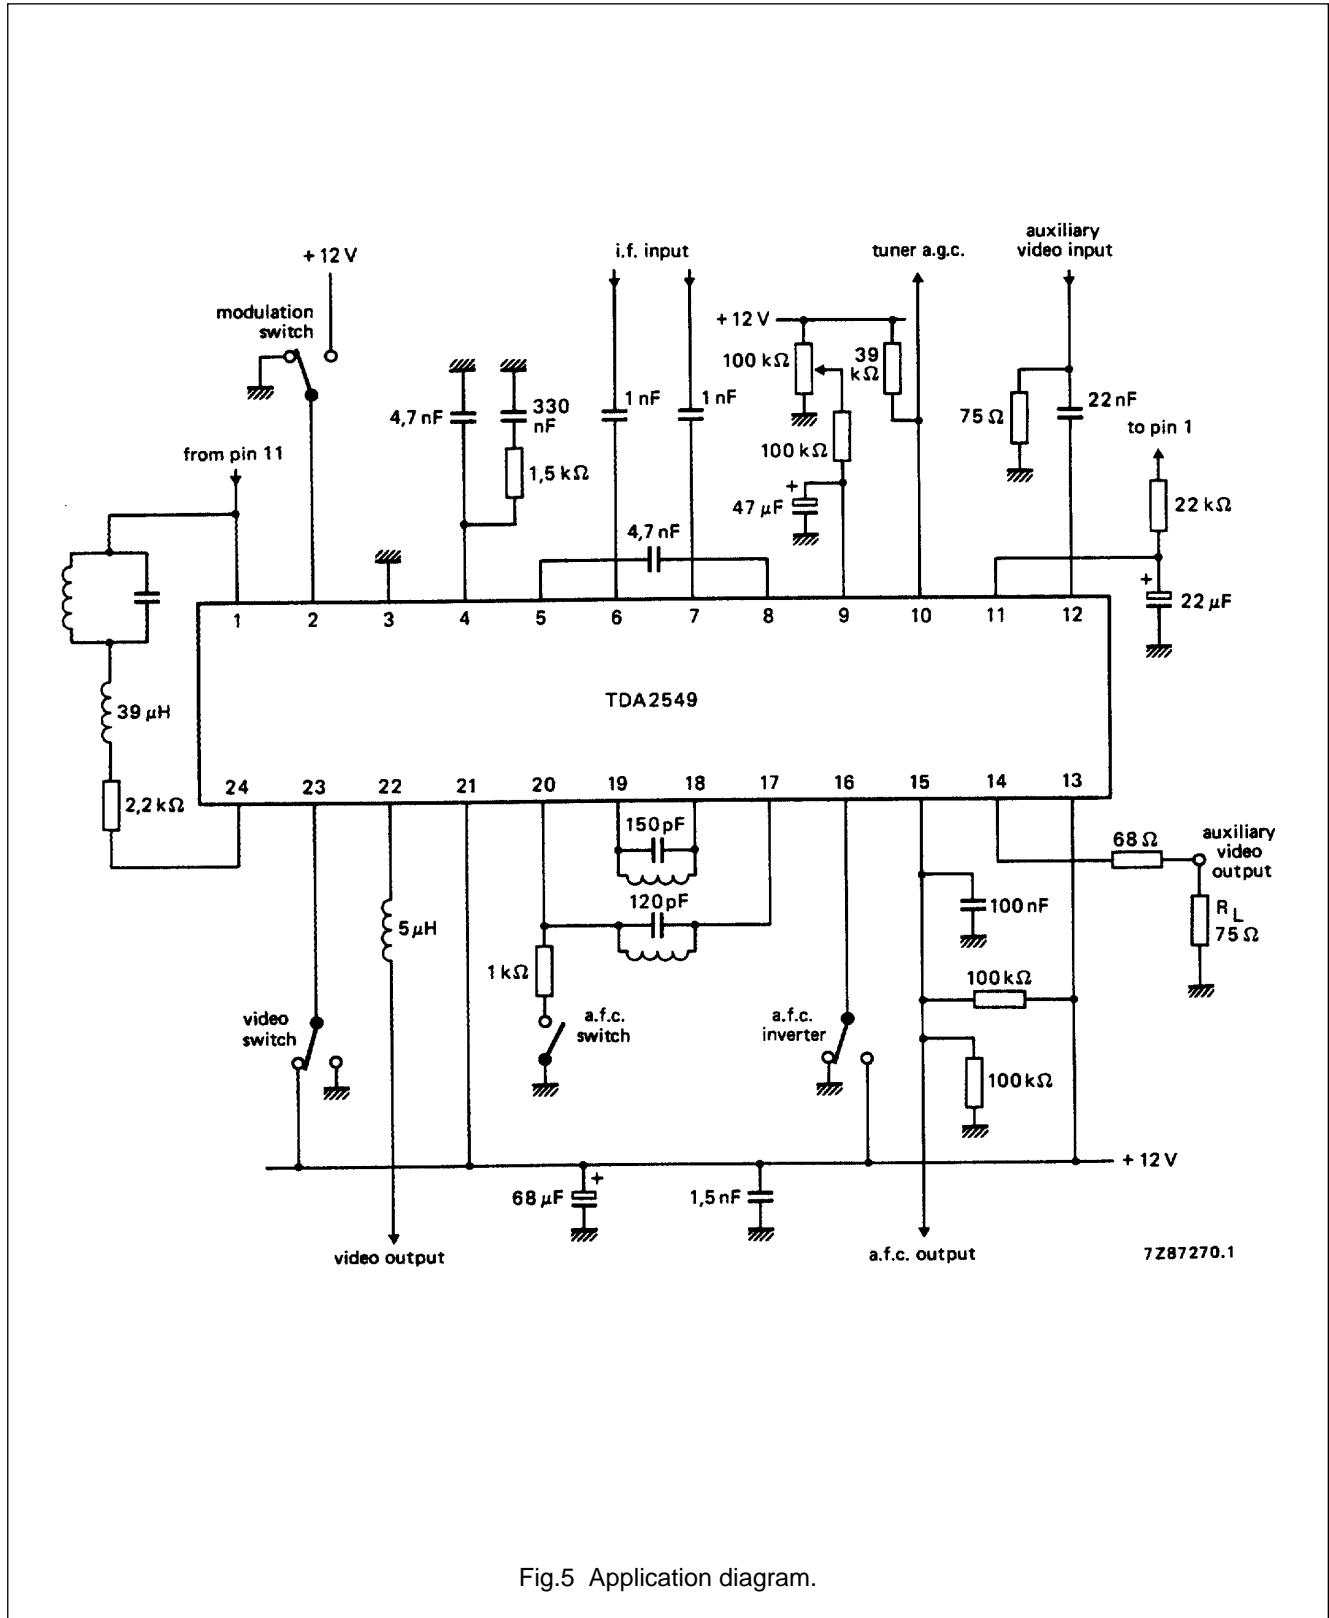

Fig.5 Application diagram.
CHARACTERISTICS (measured in fig.5) $V_P = 12\text{ V}$; $T_{amb} = 25\text{ °C}$
- Measured in application of Fig. 5.